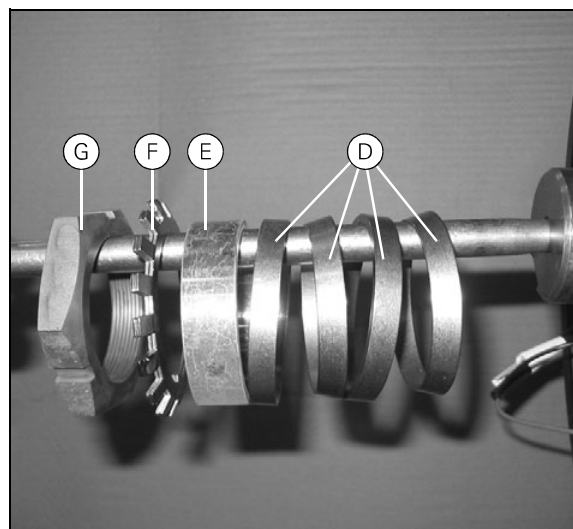

Fig. 44
- Fit the two sets of tightening elements (D), spacing sleeve (E), lock plate (F) and centre nut (G) in the order shown in (Fig. 44).
- Tighten the centre nut (G) to 600 Nm.